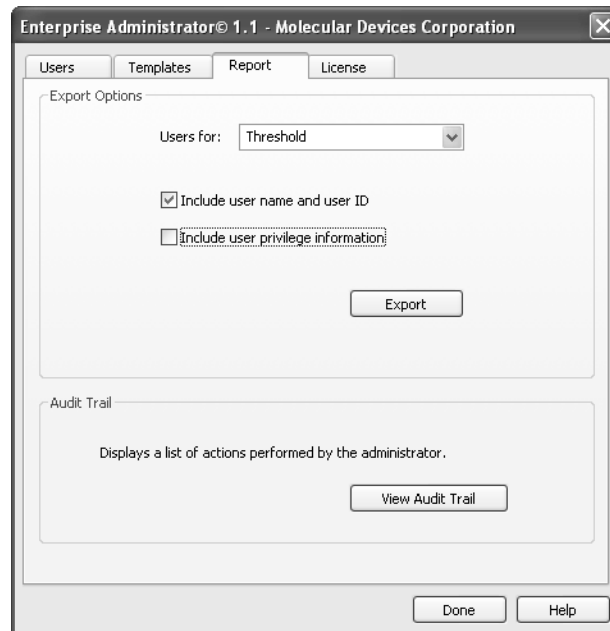

Figure 8-14: The Report Page
- 2) Go to the **Report Page**. (Figure 8-14)